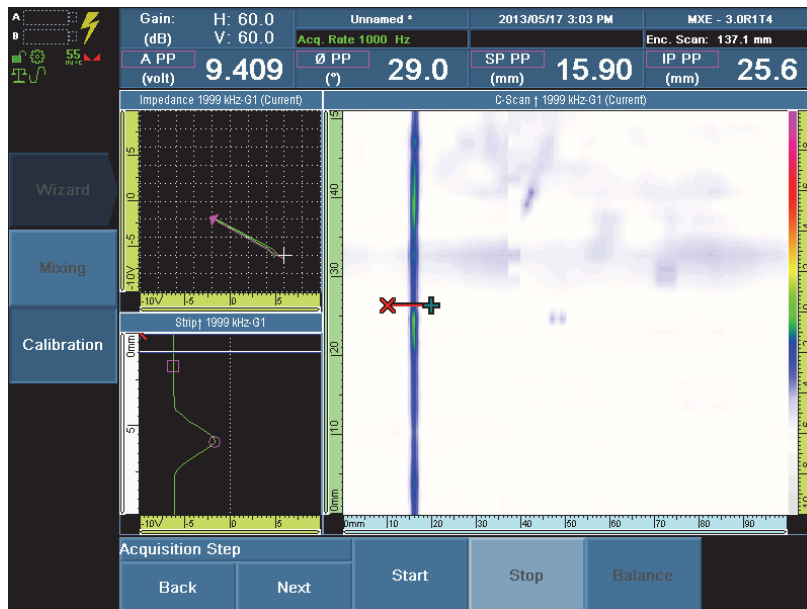

Figure 10-7 Acquiring the data of the critical defect signal
- To balance the signal, select **Balance** (see Figure 10-7 on page 185).